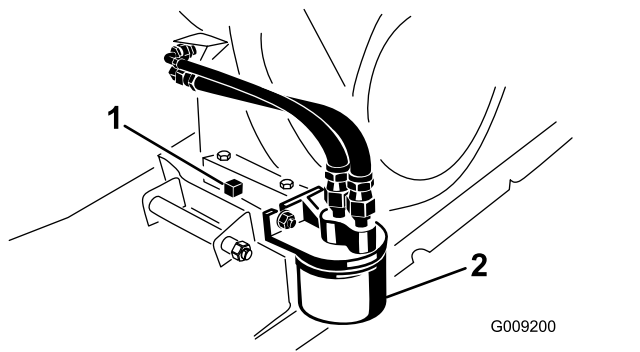

Figure 34
6. Place a drain pan under the drain plug (Figure 34).
7. Remove the drain plug and seal (Figure 34).
2. Remove the existing oil filter (Figure 34).
4. Thread the new filter onto the filter adapter until the gasket contacts the mounting plate, then tighten the filter an additional 1/2 to 3/4 turn (Figure 34).